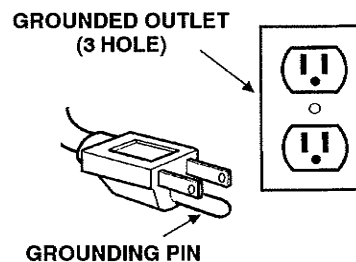

FIG. 2
5. Connect the 23 m (75 ft) detachable power cord to machine, use cord restraint strap provided, then plug cord into a grounded wall outlet (Figure 2).